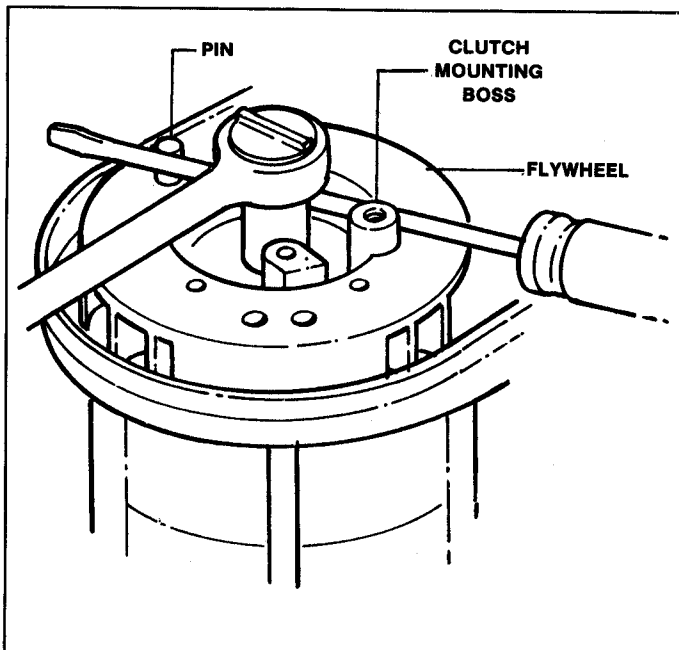

FIGURE 4.3
- A. Remove flywheel retaining nut by inserting a 7.5mm (.29") dia. pin into cast hole in flywheel and fitting a screwdriver between pin and clutch mounting boss to prevent flywheel from turning. See Figure 4.3.